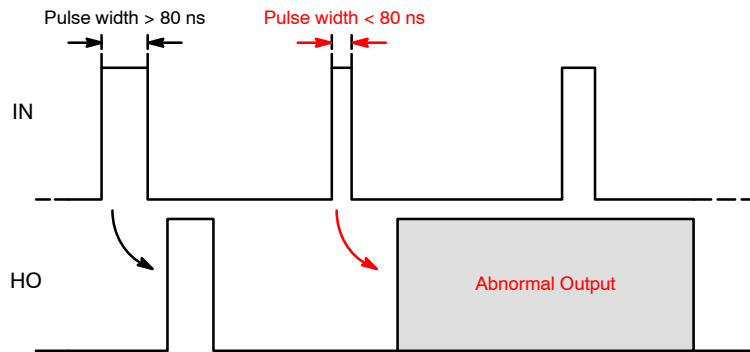
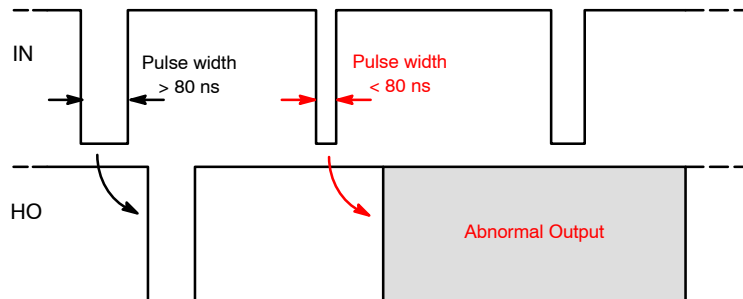

Figure 24. Output Waveform with Short Turn On Input Pulse Width
Figure 25. Output Waveform with Short Turn Off Input Pulse Width
7. Input pulses shorter than the minimum recommendation can cause abnormal output. Short input pulses can be turn on pulses (i.e., rising edge to the adjacent falling edge), turn off pulses (i.e., falling edge to the adjacent rising edge) but also parasitic pulses induced by noise. Refer to Figure 24 and Figure 25. Value guaranteed by design.